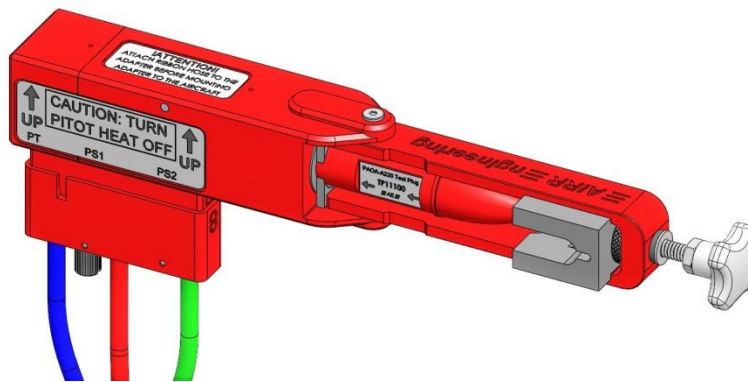

Figure 11: pusher retracted, adapter cam handle in the closed position
- C. While supporting the adapter, rotate the cam handle 90° to the inline closed position (Figure 11).
H. Retract the pusher by rotating the knob counter-clockwise until it comes to a soft stop (figure 11).